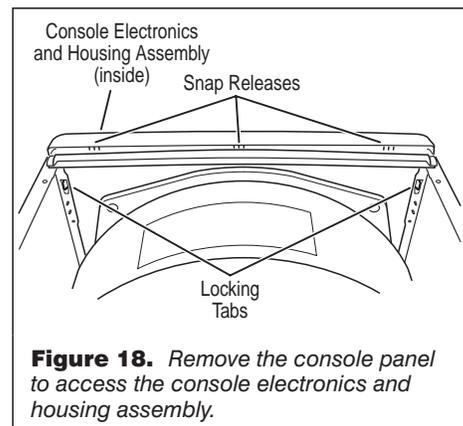

Figure 18. Remove the console panel to access the console electronics and housing assembly.
3. The console panel has two locking tabs on the left and right rear, one locking tab on the bottom (hidden), and three snap releases across the top. See figure 18. Press the locking tab on the right rear, and gently rotate the console panel up as you pull the top free of the three snap releases, finally pressing the locking tab on the left, and lift the console panel off.